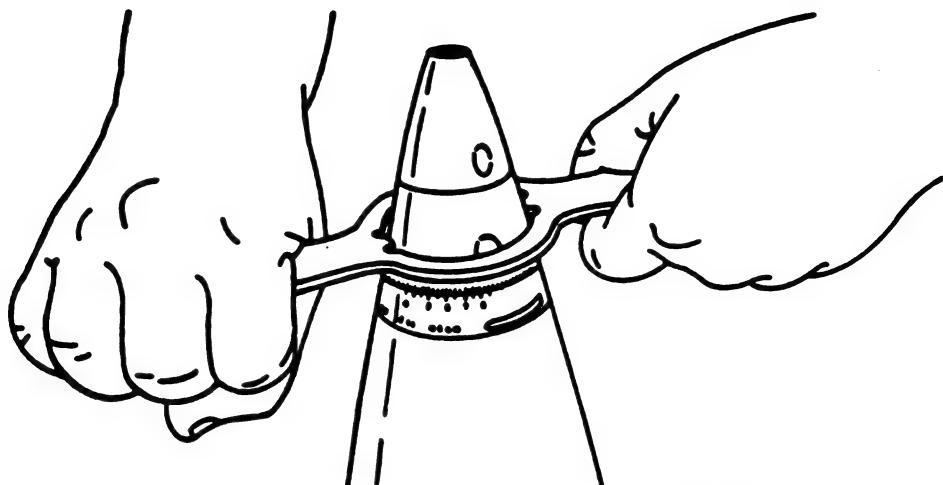

Figure 211.3. M34 Fuze setter on M564 fuze.
c. Procedures No. 3, M565 and M564 (fig. 211.3).